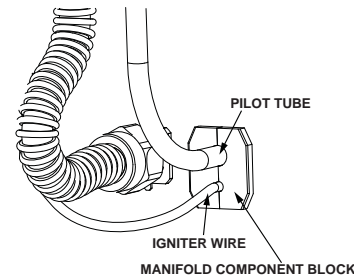

FIGURE 31.
7. Push the new pilot tube and igniter wire through the hole in the manifold door (See Figure 31). Reconnect the pilot tube and tighten the nut securing it to the pilot assembly.